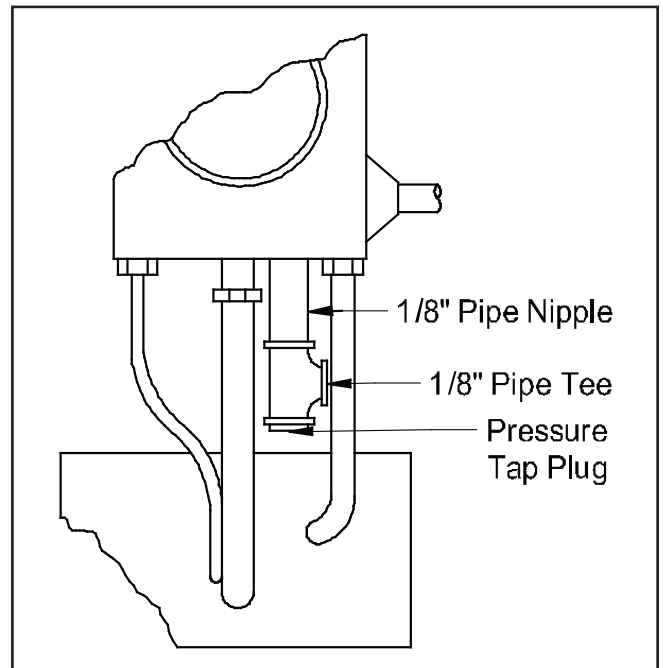

Figure 4
2. Replace the pressure tap plug with the 1/8" pipe nipple and pipe tee. Install pressure tap plug at the bottom of the pipe tee. (See Figure 4)